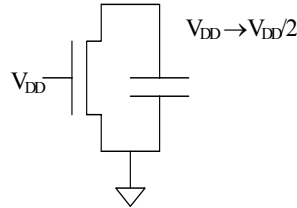

Figure 0.13 The equivalent resistance is to be computed for the H→L transition.
- Next, obtain the resistance equation 3.43 using the Figure 0.13. Assuming the V_{GS} is kept at V_{DD} , Calculate the R_{eq} as output (V_{DS}) transitions from V_{DD} to $V_{DD}/2$.(Figure 0.13).